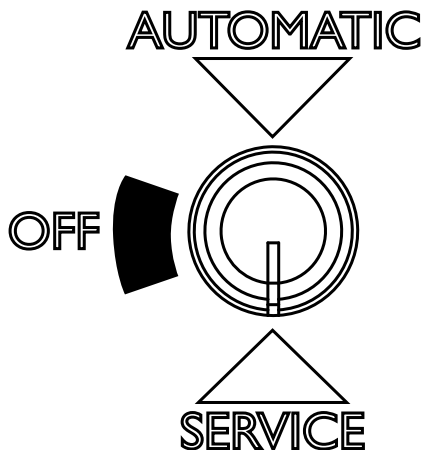

Figure 4.10
5. **Turn Mode Selector to “SERVICE” Figure 4.10.**